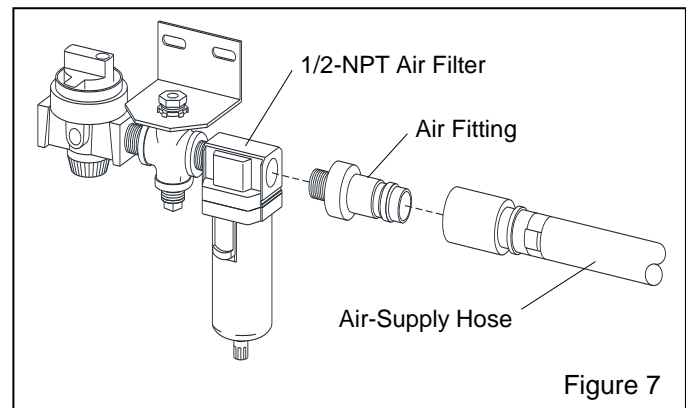

Figure 7
**2.3.2** Refer to Figure 7. Apply thread sealant to the male threads of an air fitting that is compatible with the air-supply hose fitting, and install it onto the 1/2-NPT air filter located on the back of the cabinet. If preferred, slip a short length of 1/4" tubing in to the filter's drain barb to direct drain water into a container. **Note: The style of connection shown in Figure 7 is for reference only.**